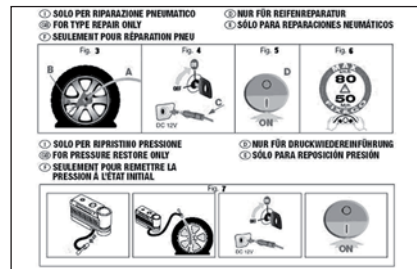

fig. 15
- instruction brochure **fig. 15**, to be used for prompt and proper use of the quick repair kit and to be then handed to the personnel charged with handling the tyre treated with the tyre repair kit;